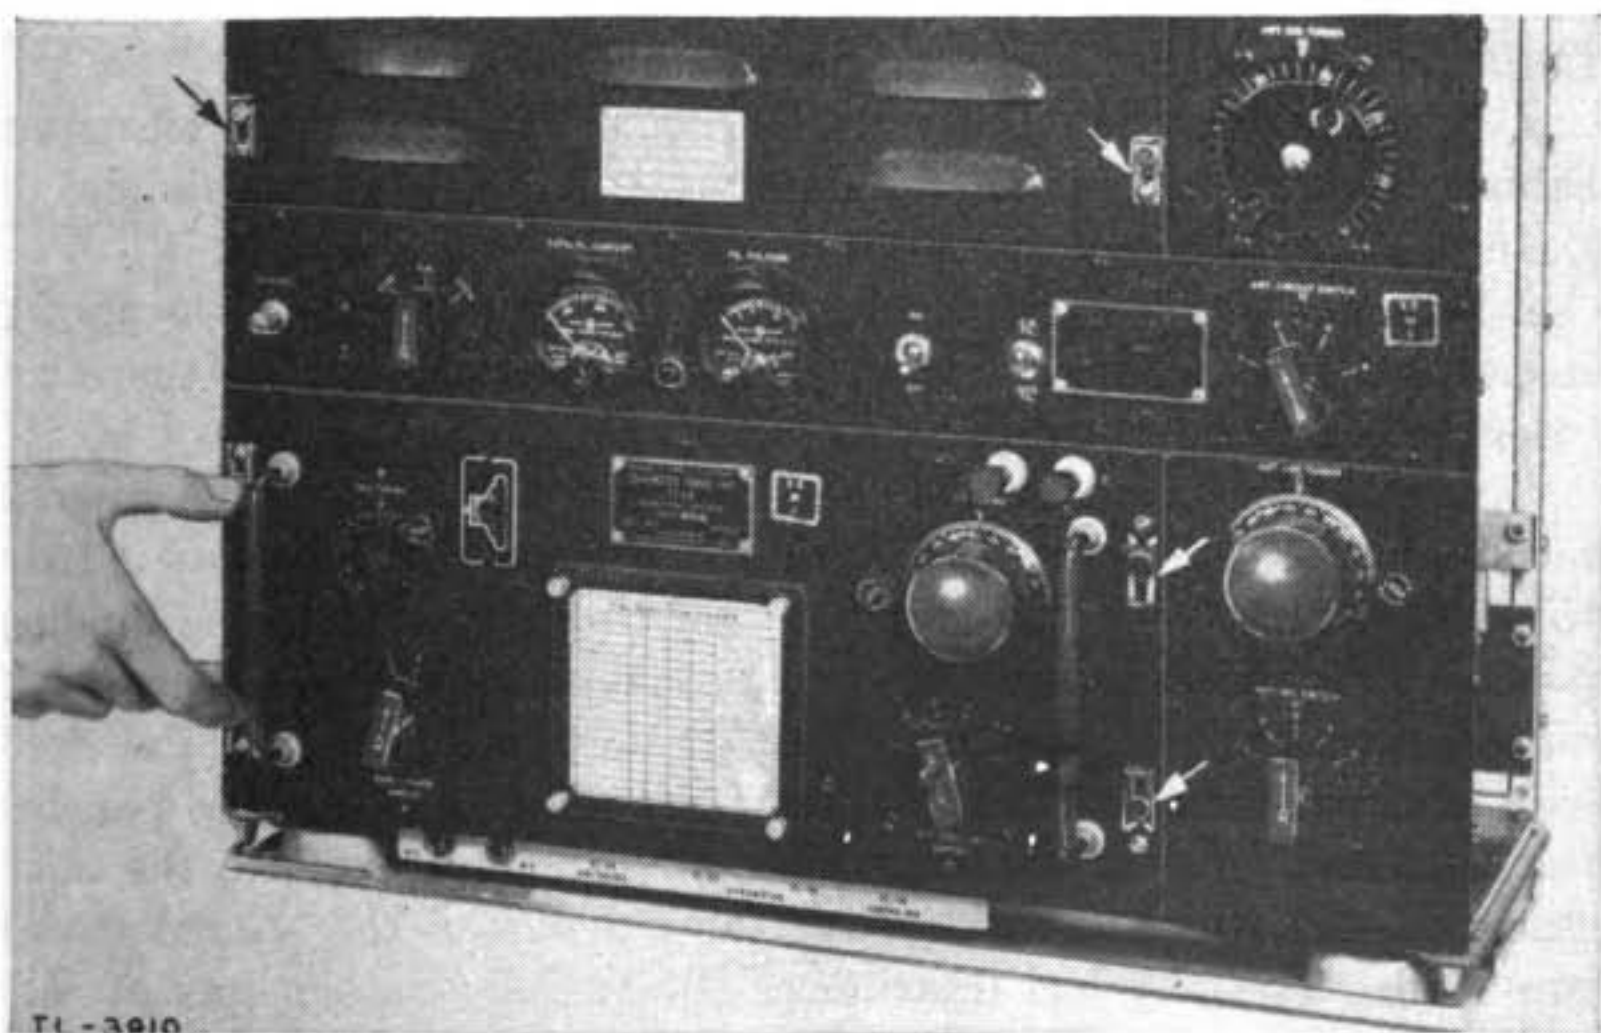
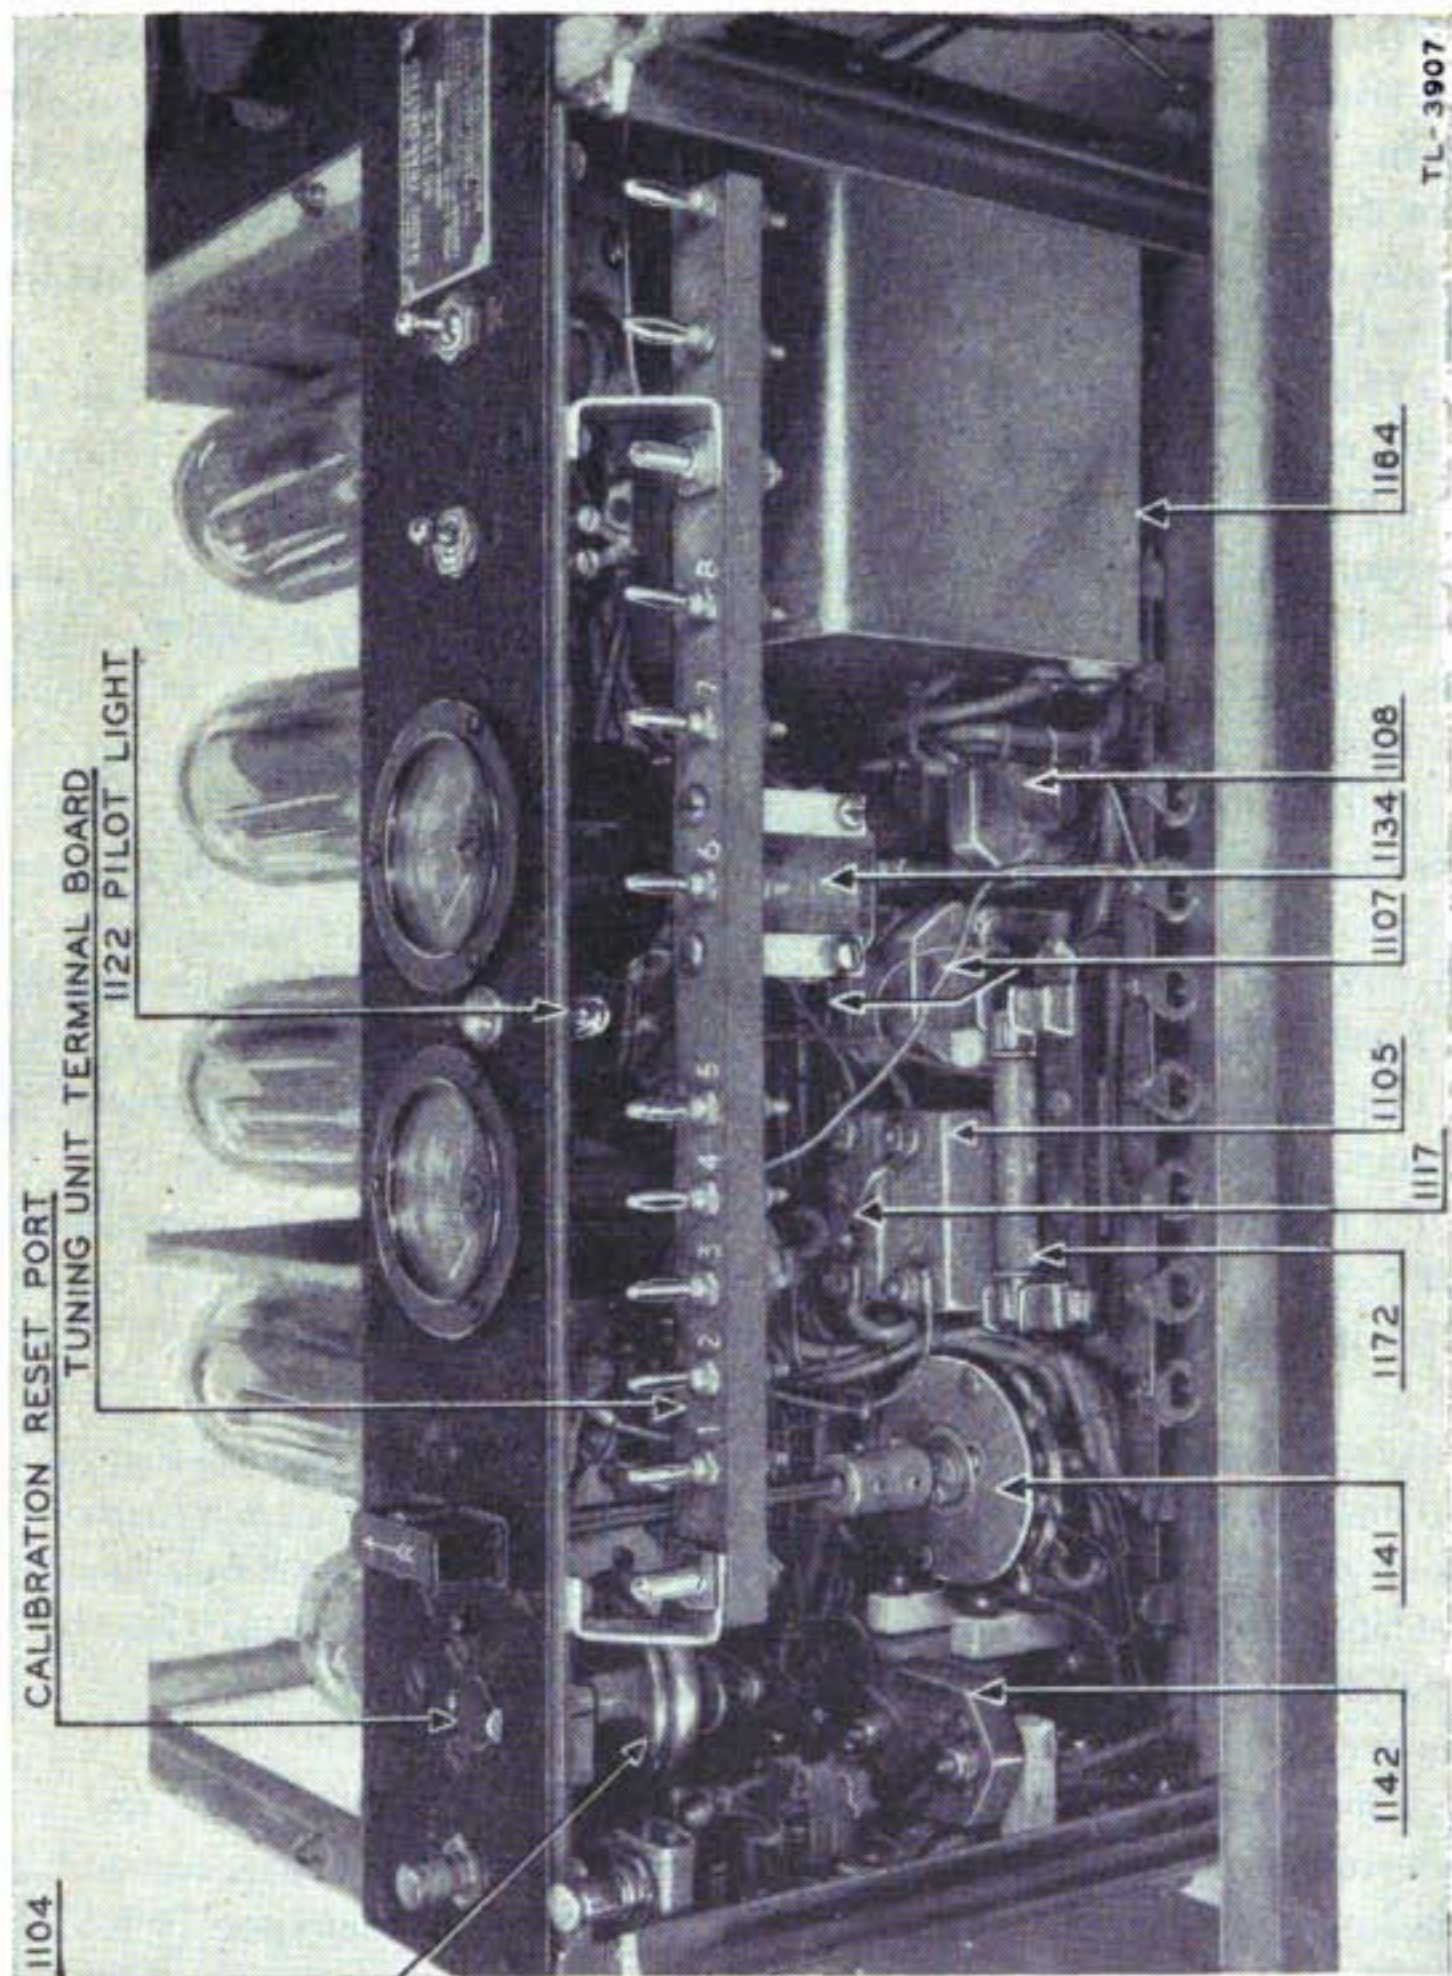

FIGURE 1.—Location and operation of snap slide catches on radio transmitter BC-191-(*)—front panel.
FIGURE 3.—Tuning unit receptacle in radio transmitter BC-191- (*) from front and below, showing pilot light and fuse holder location.
c. Below this panel is a compartment provided with metal guides. A transmitter tuning unit inserted in this compartment connects to the transmitter circuits by means of jacks and plugs mounted on insulated strips. (See fig. 3.) When inserted, it is locked in place by means of four snap slide catches. (See fig. 1.) The front panel of the tuning unit is then flush with the transmitter front panel and the tuning unit becomes an integral part of the transmitter.
a. Minor installations.—(1) All control knobs, jacks, and switches on the transmitter are identified in this manual by their actual markings; for example, the three-position switch at the left end of the narrow front panel is marked TONE C. W. VOICE above the three positions of the switch pointer. In this manual this switch is designated as the TONE C. W. VOICE switch.
(2) If necessary, insert a pilot lamp LM-27 in the socket behind the ruby reflector located between the TOTAL PL. CURRENT meter and the FIL. VOLTAGE meter just above the transmitter tuning unit compartment. (See fig. 3.) Do this by slipping the lamp up behind the panel before inserting the tuning unit in the compartment. The bulb is inserted and turned to lock it in place.
(3) Remove the cover from the tube compartment by releasing the slide catch fasteners as shown in figure 1. Insert the five tubes in the sockets marked with the corresponding Signal Corps VT type numbers.
(4) Inspect the fuses located in the transmitter. There should be three fuses FU-12-A, one in use and two spare. The one in use fits in the clip located above the tuning unit receptacle and behind the pilot lamp socket at the rear of the transmitter frame. (See fig. 3.) It can only be inserted when there is no tuning unit in the receptacle. The two spares are mounted on clips on the bottom shelf just below the tuning unit receptacle and near the front of the transmitter. (See fig. 22.)
b. Actual installation.—(1) Interconnect all cording with power supply equipment turned off and the OFF ON switch on the transmitter front panel in the OFF position. If a separate control box is used be sure it is turned off. Do not connect the cord and plug from the power supply equipment to the DYNAMOTOR PL-59 socket on the transmitter.